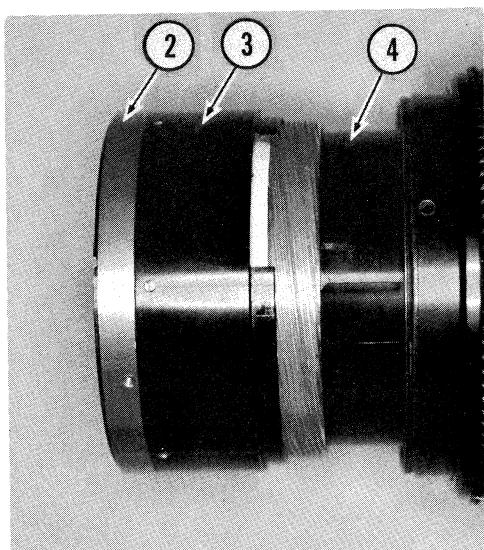

Fig. 56
9.1.4 Slide Inner Focus Ring (5) to rear of lens to expose Outer Helicoid (3), Infinity Stop Ring (2), and 1st Lens Group. (Fig. 56)